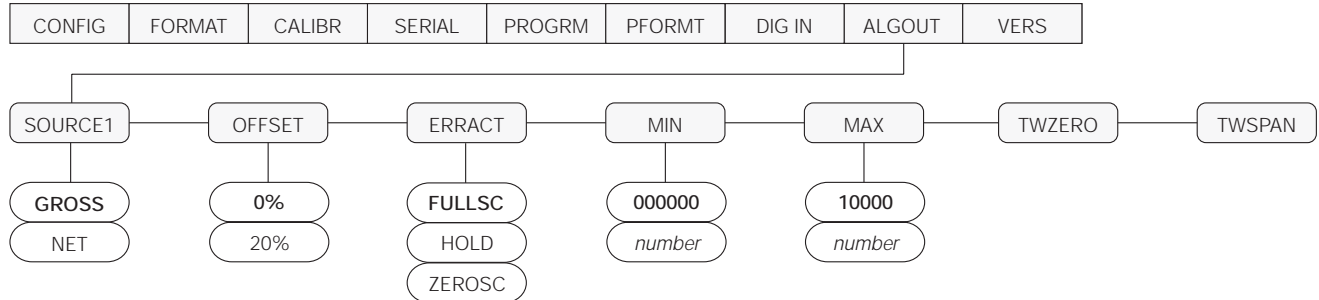

Figure 7-5. Analog Output Menu
1. Enter setup mode and go to the ALGOUT menu (see Figure 7-5):